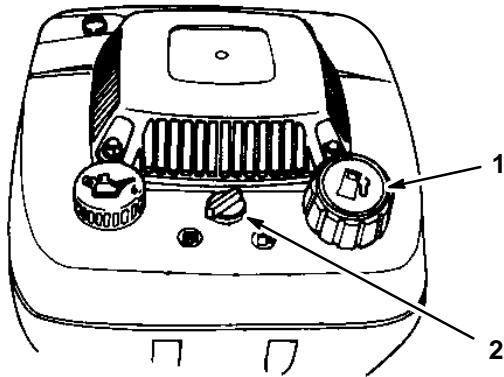

Figure 7
- Clean around the fuel tank cap and remove the cap from the tank (Fig. 7).
- Open the fuel valve (Fig. 7).